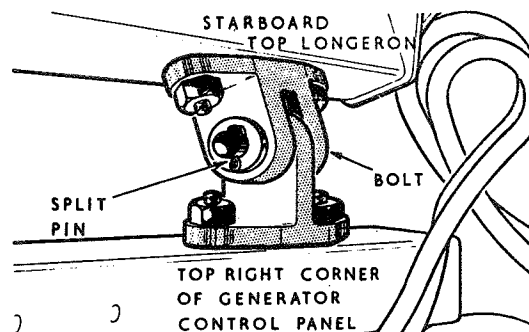

Fig. 3. Generator control panel upper attachments
- (1) Render the aircraft electrically safe, as described in Group A1 of this chapter.
- (2) Remove the radio access door.
- (3) Disconnect cable assembly F49 from the plug located at the top of the supply panel. Seal off the plug and socket with an approved cap and cover.
- (4) Disconnect cable assemblies C37, C38, F52 and C5 from the differential cut-outs and the battery relay mounted on the control panel. Remove any straps and clips securing these cable assemblies, insulate the bare cable ends and stow the assemblies away from the panel.
- (5) Disengage the four Dzus fasteners securing the bottom of the panel and, with another operator supporting the panel, withdraw the two top hinge pins by removing the split-pins and washers (fig. 3).
- (6) Lower the panel and remove it from the aircraft complete with cable assembly F49.